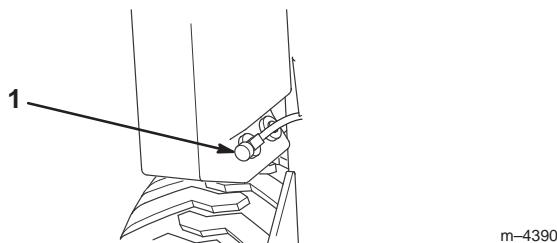

Figure 31
2. Shut off the fuel valve on the bottom of the fuel tank (Fig. 31).
8. Open the fuel valve on the bottom of the fuel tank (Fig. 31).
3. Shut off the fuel valve on the bottom of the fuel tank (Fig. 31).